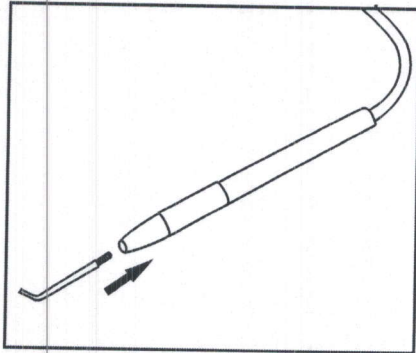

Fig.35
- 5) Insert the tooth probe into the handle. (Fig.35)